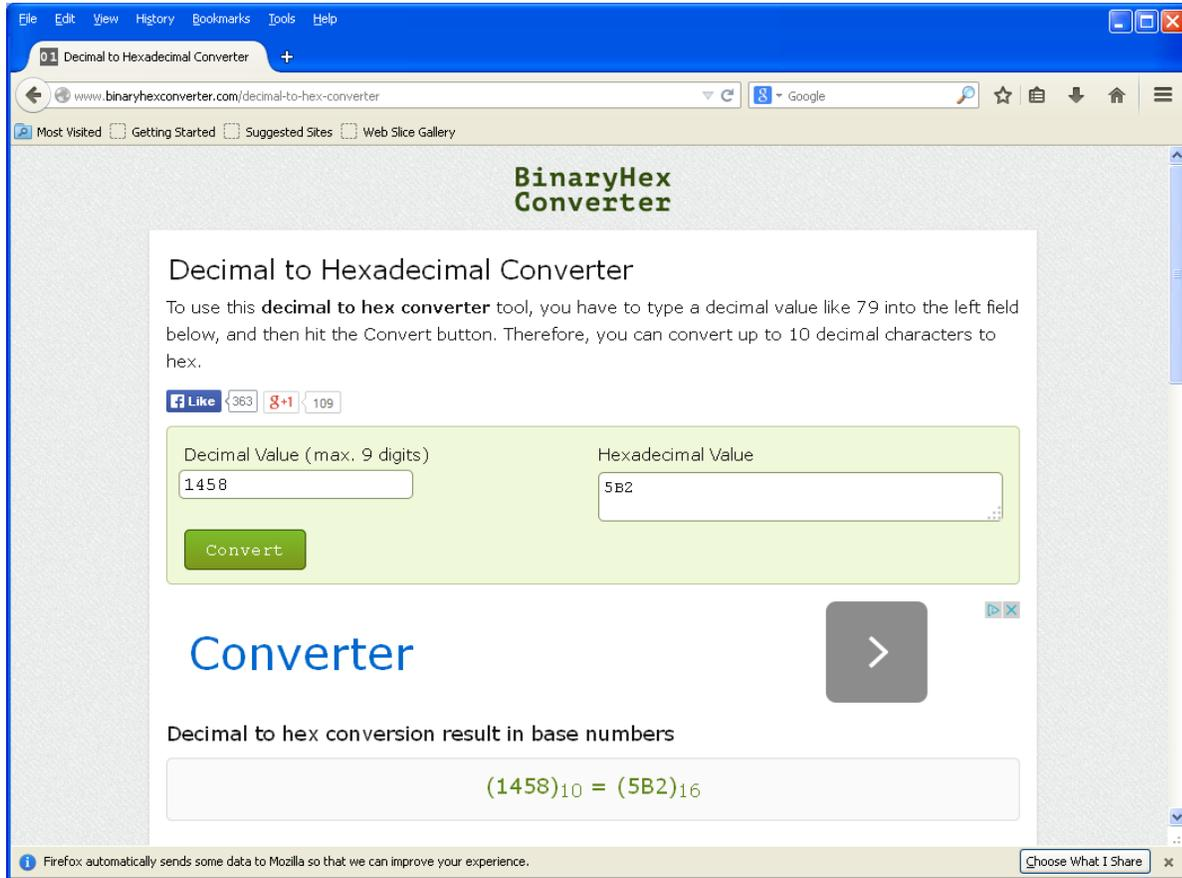

FIGURE 6-19. Web-based decimal to hexadecimal converter
- Remove the CPU module and note the serial number. Convert the serial number from decimal to hexadecimal (base 16). Web-based converters are available. FIGURE 6-19 shows an example, converting serial number 1458 to its representation in hexadecimal, 5B2.
- Enter **1** (Ethernet Address). At the prompt, enter **0x** followed by a four-digit hexadecimal value. If the serial number in hex is less than four digits, use leading zeros to create a four digit hex number. In the example shown in FIGURE 6-19, the serial number entered would be 0x05b2.